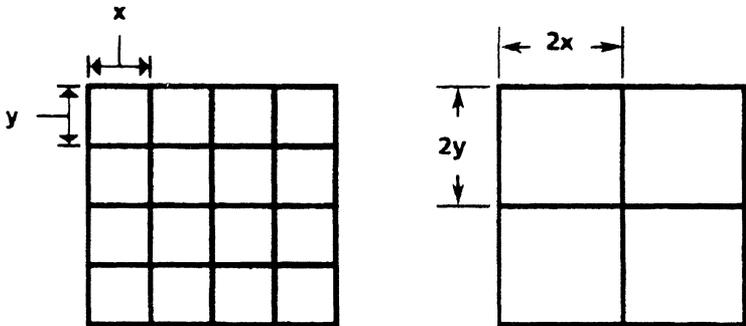

Figure 2-7 Resolution and pixel size
(M) Graphic windows may be printed with 1, 2 or 4X magnification. With 1X (one times) magnification, each bit in the graphic file represents one printed or unprinted dot. With 2X (two times) magnification, each bit in the graphic file represents **two dots** in both X and Y directions. Thus, the number of bits required to cover a given area is reduced by a factor of 4. Similar calculations may be performed for 4X magnification, using a factor of 16. The resulting image is coarser, but requires one-fourth the storage area in memory. This relationship is shown in Fig. 2-7 and Table 2-8.